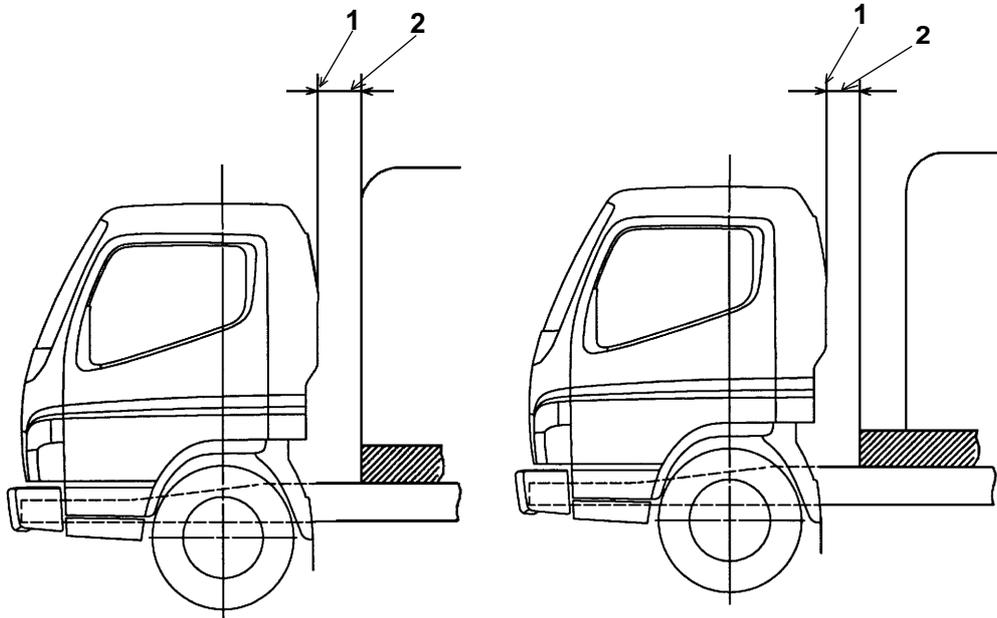

Fig. 1
(1) Position of mounting frame
- Install the mounting frame as shown in Fig. 1 to gradually reduce the stress concentrations in the front end. The front end of the mounting frame should be installed as close to the rear of the cab as possible. Extend the mounting frame as far toward the cab as possible when the rear body is installed far from the cab.